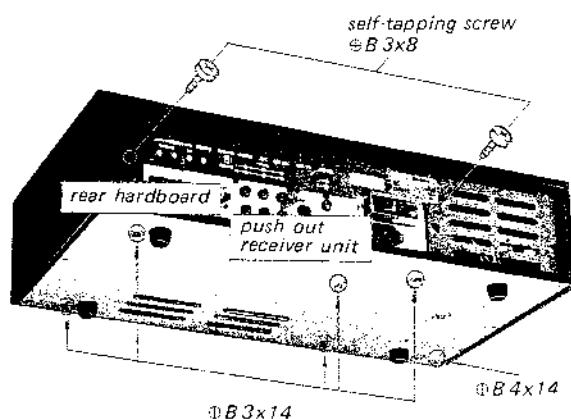

Fig. 2-2. Receiver unit removal
1. Remove the two screws ($\Phi B3 \times 8$) from the rear hardboard as shown in Fig. 2-2, and then tilt it toward you and down. This frees the rear hardboard.
3. Remove the five screws ($\Phi B3 \times 14$) and one screw ($\Phi B4 \times 14$) from the bottom as shown in Fig. 2-2.
4. Remove the receiver unit out of the wooden case by pushing it out in the direction shown by the arrow in Fig. 2-2. This frees the receiver unit.